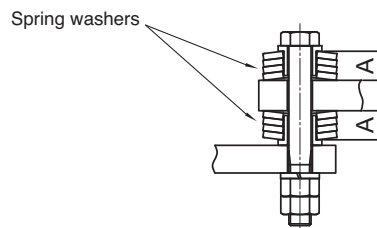

Fig.13 Example of spring washers attachment
- Attach the spring washers without gap in the part of attachment ("A" in fig.13).